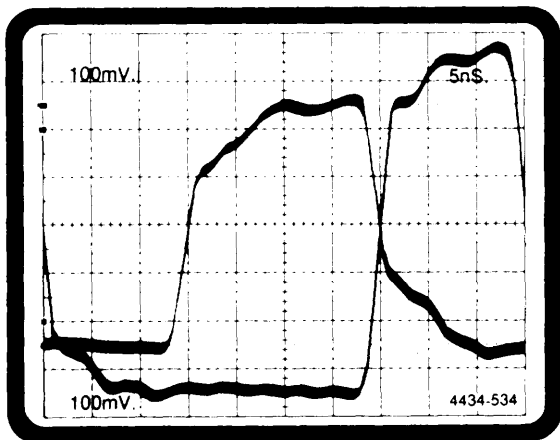

Figure 5-60. 338 Parallel data acquisition test waveform #1.
- 13. Adjust DD501 EVENTS LEVEL slowly until the channel 2 waveform's falling edge crosses the channel 1 waveform's rising edge at 0 V (mid-screen). See Figure 5-60 (20 ns setup, 0 ns hold).